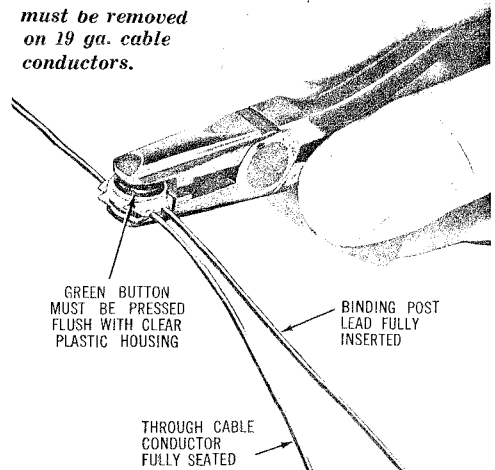

Fig. 5 — Pressing UG SCOTCHLOK Connector with Z Pressing Pliers
(3) Bridge the tip and ring terminal block leads to the tip and ring conductors of the assigned cable pair using UG SCOTCHLOK connectors and Z Pressing Pliers (Fig. 5). When pressing the connector make certain that the green button is pressed flush with the surface of the clear plastic connector housing.